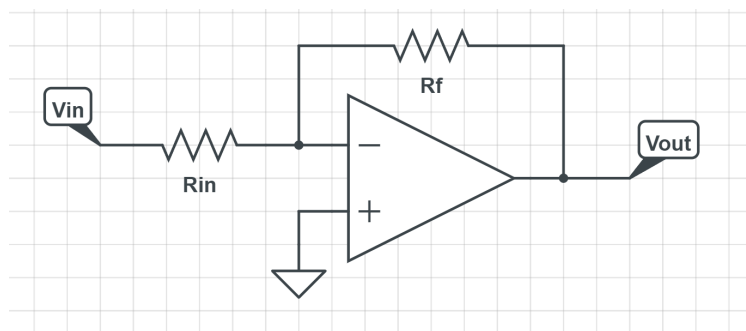

Figure 1: Inverting amplifier
3. We have an inverting amplifier with no reference voltage (non-inverting terminal is connected to GND) as shown in Figure 1. Please upload all of your work for this problem.